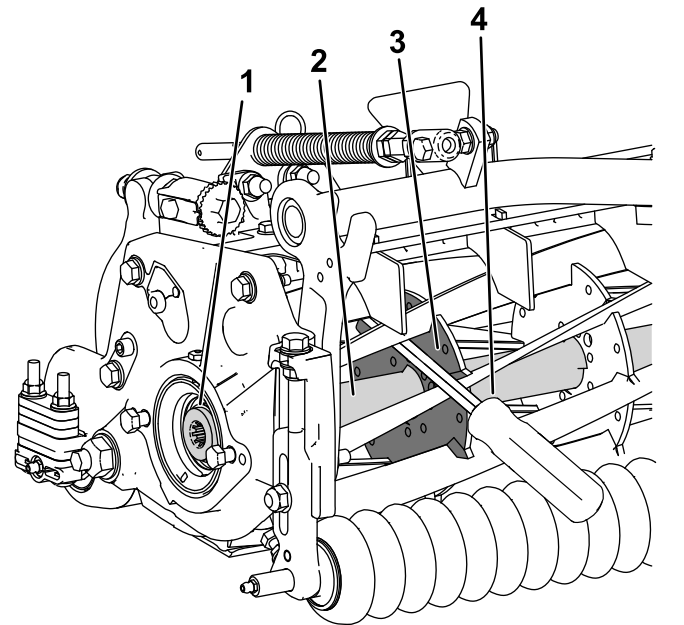

Figure 43
1. Insert a long-handled pry bar (recommended 3/8 x 12 inches with a screwdriver handle) through the front of the cutting reel, closest to the side of the cutting unit that you will be torquing (Figure 43).
2. Place the pry bar against the weld side of the internal cutting reel reinforcement (Figure 43).